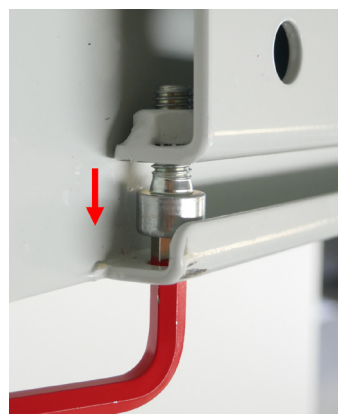

Fig. 17 Bracing the storage unit
6. Unscrew the screw until the storage unit is braced with the bracket (Fig. 17 & 18).